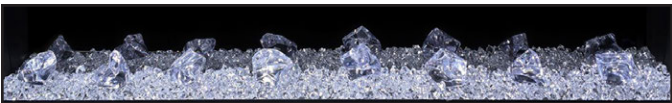

Figure 4.7 Clear Crystal Media Placement
- 3. Distribute the medium clear crystals evenly across the ember bed. See Figure 4.7.